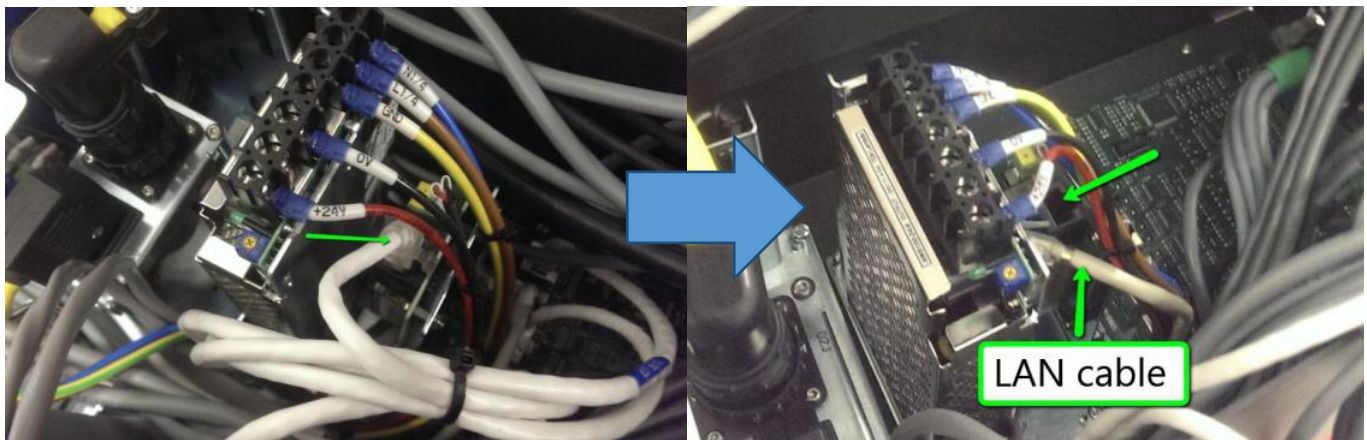

Figure 4 Lan cable
- Disconnect the LAN cables at Embedded System Support MISC Board-Interlock Board 2IN2OUT Channels H-Tube Patch Board/Interlock Daughter Board (P/N, 2210-0021) as Figure 4.